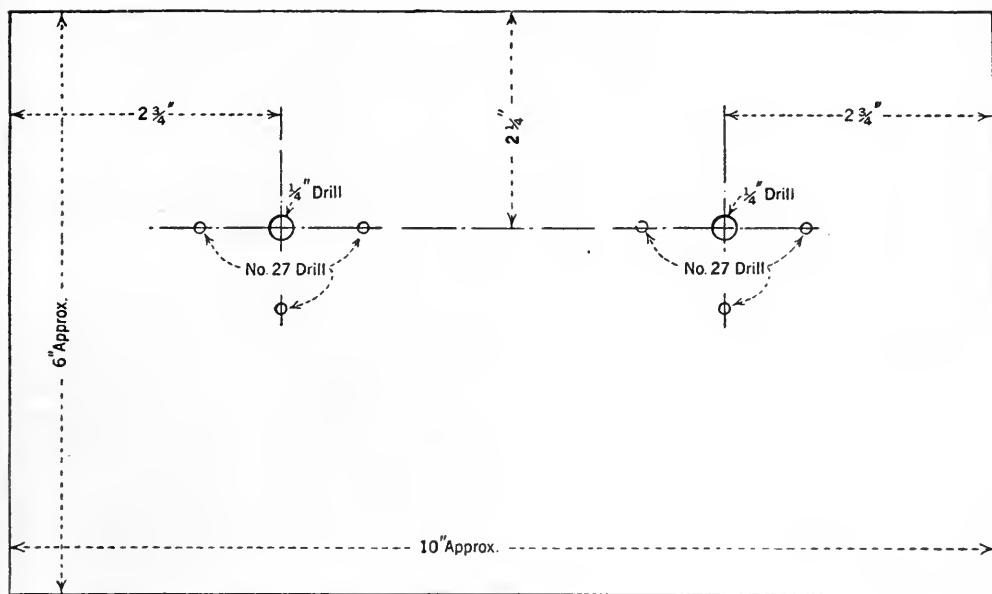

FIG. 2
**O**NCE again the cigar-box, the mechanical genius of the radio beginner, plays the combination part of panel and cabinet. A rather large box, about ten by six inches, should be secured. The hinged cover and paper are removed by soaking in water, and the wood is sandpapered to a clean, smooth finish. The bottom of the box is marked and drilled according to the panel layout in Fig. 2. (Detailed instructions on the preparation and working of cigar-box wood are given in The Radio Beginners' Department for July.) The writer found it more convenient to take the box apart and re-assemble it as the parts were mounted.